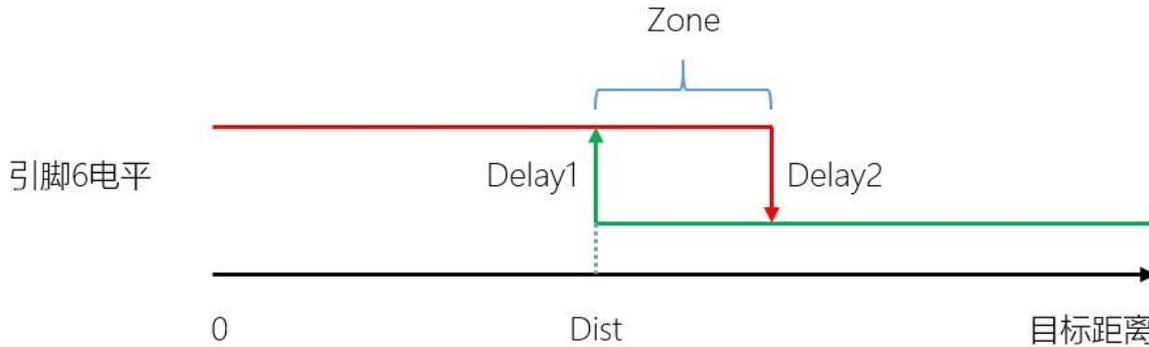

Figure 6 On/off mode that high level means closer
③ Open your Test software and check data output
Open the PC software and select “①TF-Luna” and select automatically recognized occupied serial port (in this case “② COM9”) as shown in Figure 6